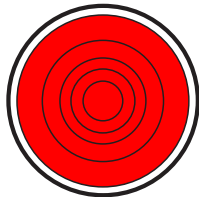

Figure 76. Main Circuit Breaker OFF Lamp (ON/RED)
4. Verify that the **Main Circuit Breaker OFF** lamp (Figure 76) is illuminated (**RED**). This indicates that the circuit breaker contacts are open.